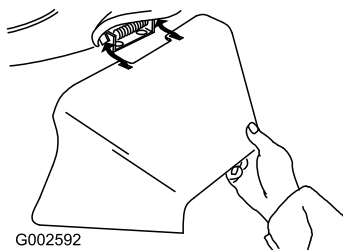

Figure 21
3. Install the side-discharge chute and close the door onto the chute (Figure 21).